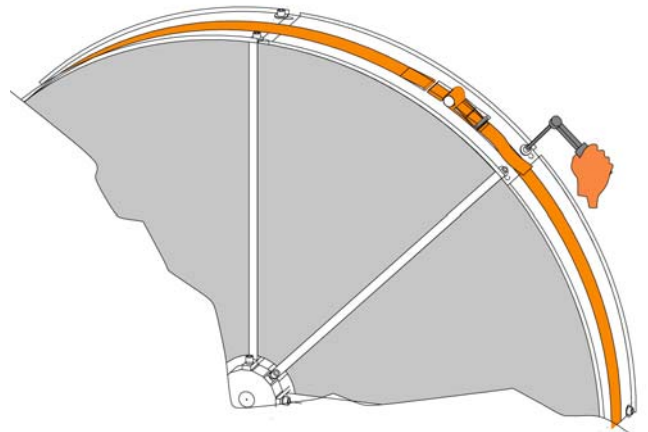

Figure 15
- After the rotor has been firmly clamped, tighten the M10 socket screws firmly (Figure 15)